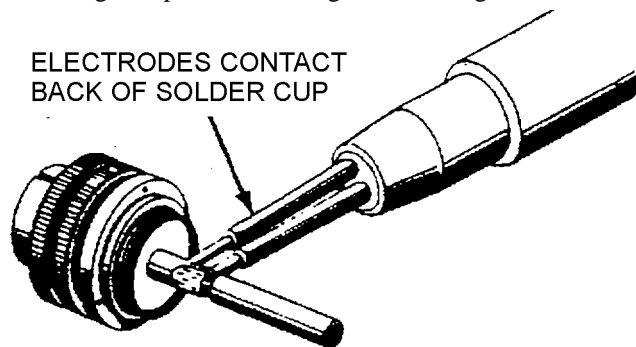

Figure 18. Resistance Soldering to Small Contacts
a. Small contacts are soldered by the use of a pencil type resistance soldering tool (Figure 18). The two electrodes of the tool are placed in contact with the side of the solder cup so that the heating current will pass through the wall of the cup. When the solder flows, insert the tinned wire. Continue to apply heating current to the connection until the solder flows to form a smooth fillet, remove heating current and allow the joint to cool and harden without movement.